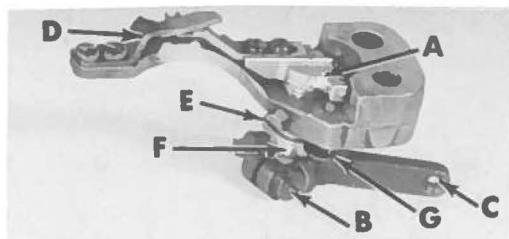

Fig. 15
1. There should be no bind or shake in lower knife pivot carrier (A, Fig. 15). This adjustment can be made by loosening screw (B) on the pivot release lever (C) and taking up the excessive end play or relieving the bind as the case may be.
Adjust lower knife until it just contacts the upper knife. To adjust the lower knife turn flange screw (G, Fig. 15) clockwise to lower knife and counterclockwise to raise it.
- c) Turn handwheel in operating direction until tip of finger on thread deflector plate (A, Fig. 24) is 1/32" (.79 mm) to the rear of the rear edge of the positioning finger (B, Fig. 15) (needle on upstroke). Then rotate the trim disc (C, Fig. 24) until its small gap is centered in the synchronizer head.